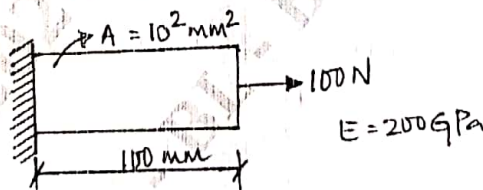

Fig. Q3 (b)
- b. Write the set of commands employed in ANSYS software to perform structural analysis for a uniform bar structure as shown in Fig. Q3 (b).